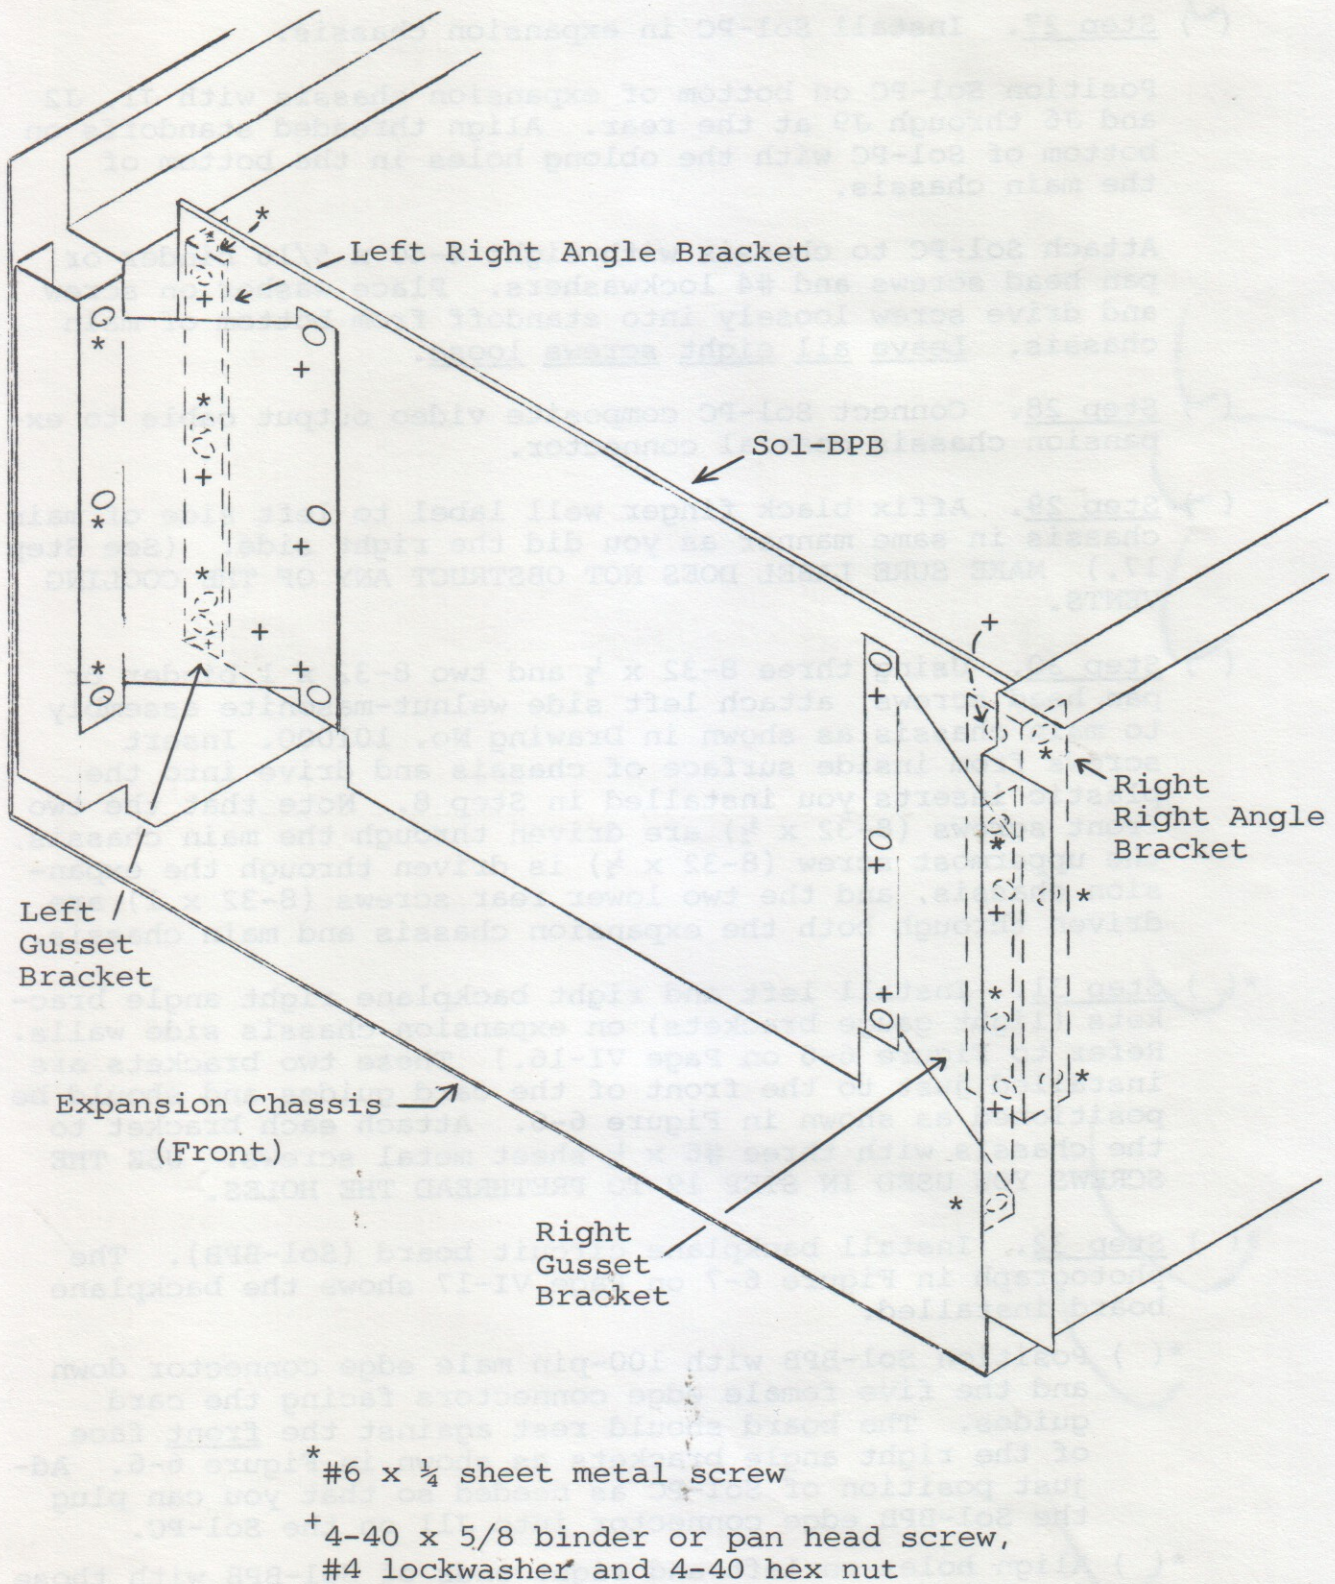

Figure 6-6. Backplane board (Sol-BPB) installation.
- * () Step 31. Install left and right backplane right angle brackets (light gauge brackets) on expansion chassis side walls. Refer to Figure 6-6 on Page VI-16.) These two brackets are installed just to the front of the card guides and should be positioned as shown in Figure 6-6. Attach each bracket to the chassis with three #6 x $\frac{1}{4}$ sheet metal screws. USE THE SCREWS YOU USED IN STEP 19 TO PRETHREAD THE HOLES.
- * () Position Sol-BPB with 100-pin male edge connector down and the five female edge connectors facing the card guides. The board should rest against the front face of the right angle brackets as shown in Figure 6-6. Adjust position of Sol-PC as needed so that you can plug the Sol-BPB edge connector into J11 on the Sol-PC.
- * (✓) Step 33. Install left and right gusset brackets as shown in Figure 6-6 on Page VI-16.